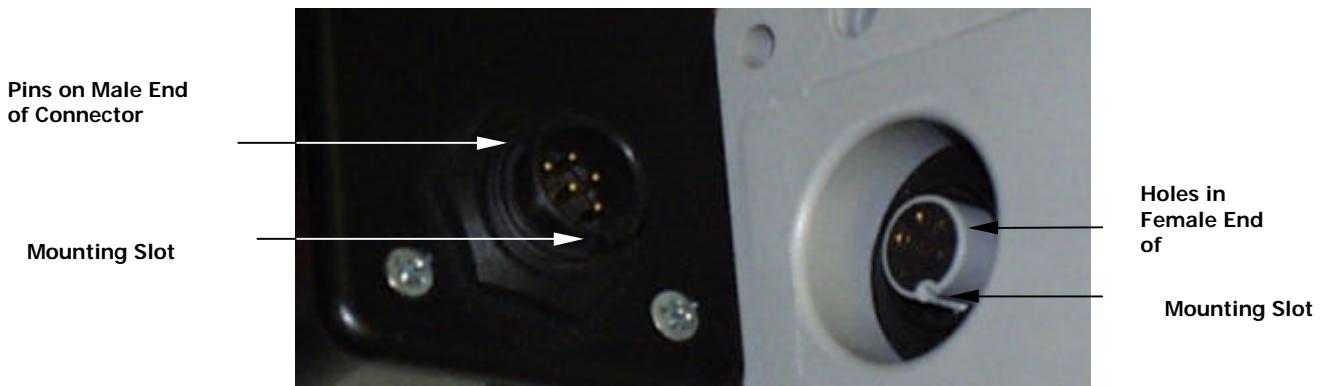

Figure 3.1-3 Pins, Holes and Mounting Slot
1.	Connect the test TIM 200 to the Pulser by lining up the pins and mounting slot on the male end of the Pulser with the holes and mounting slot on the female end on the TIM. (See Figure 3.1-3)